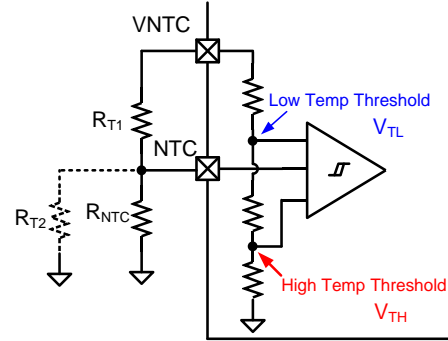

Figure 16: NTC Function Block
Figure 16 shows an internal resistor divider reference circuit that limits both the high and low temperature thresholds at V_{TH_High} and V_{TH_Low} , respectively. For a given NTC thermistor, select an appropriate R_{T1} and R_{T2} value to set the NTC window using Equation (25) and Equation (26):
EC table to calculate $R_{T1} = 2.27k\Omega$ and $R_{T2} = 6.86k\Omega$ (see Figure 16).